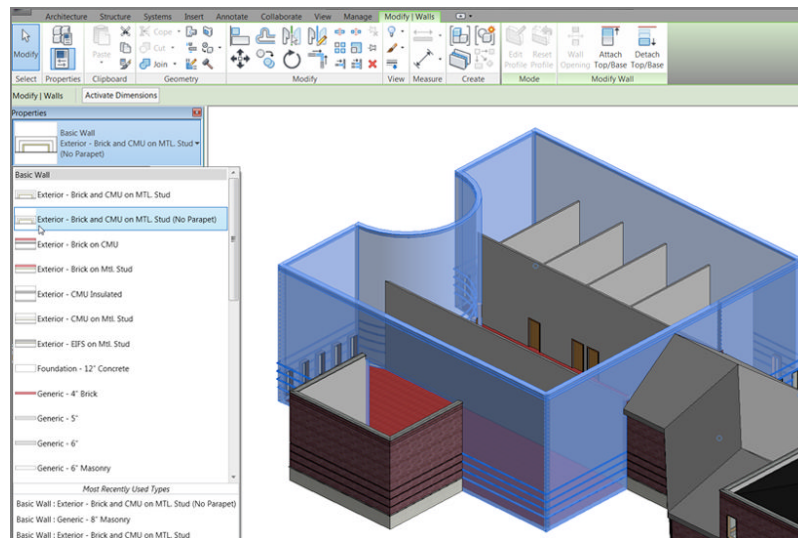

FIGURE 7.38: Changing the walls to Exterior - Brick And CMU On MTL. Stud (No Parapet)
2. Select the west wing exterior walls (see Figure 7.38).
3. In the Type Selector, select Exterior - Brick And CMU On MTL. Stud (No Parapet), as shown in Figure 7.38.